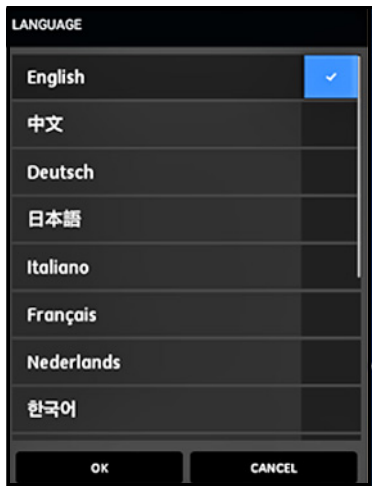

Figure 60: PT900 APP Language Options
- 3. At the screen shown in *Figure 60* below, select the desired language for the APP and click OK.